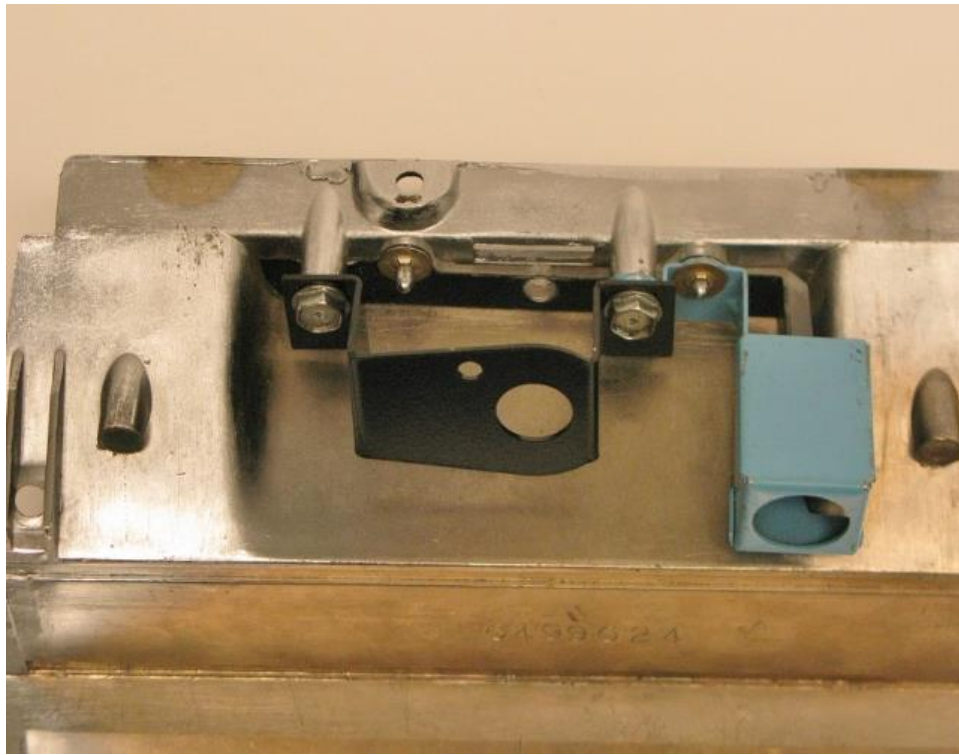

Figure 4 – Install Wiper Switch Adapter
9. With the center dash bezel out of the vehicle, install the wiper switch adapter using the 2 screws from the previous step that held the stock wiper switch in place (Figure 4).